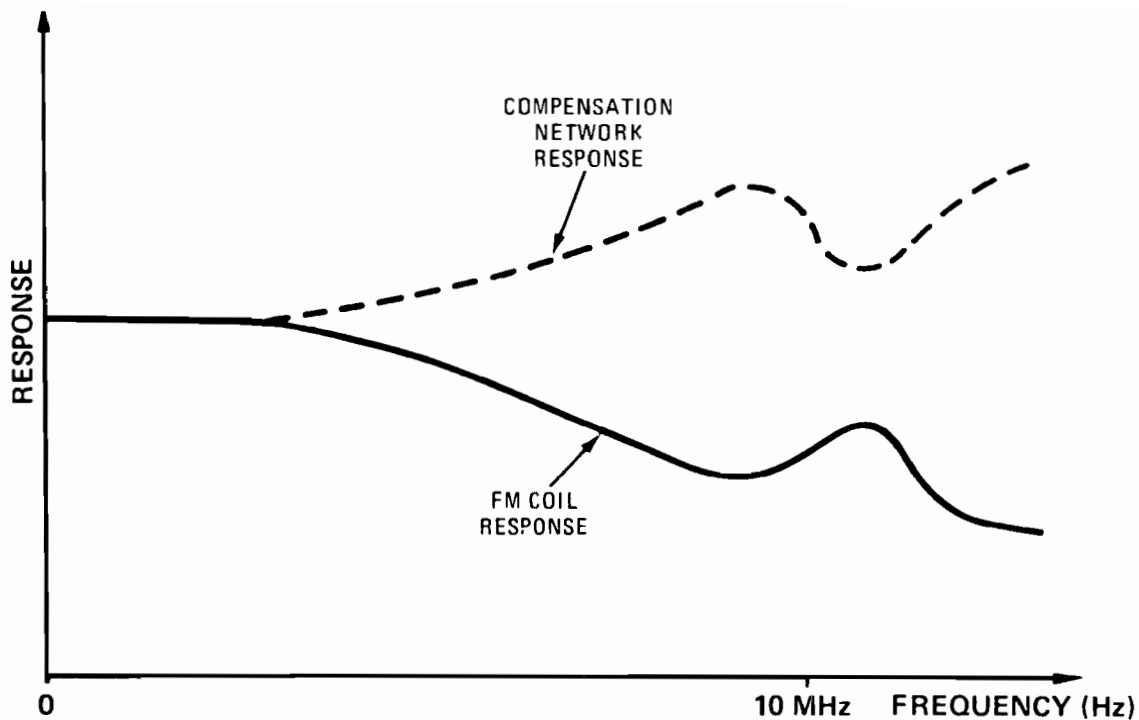

Figure 8-39. Plot of FM Coil Response Versus Frequency
The output of the filter network is limited to about ± 3 V with a network made up of VR1, VR2, R14, R15, CR3, and CR4. Q5A and Q5B are connected as emitter followers and buffer the output of the filter network to video amplifier U10. Analog switch U11 is always set to switch position zero. Frequency response shaping to compensate for the roll-off versus frequency of the FM coil is produced by the network made up of C11, C12, C14, R21, R22, R23, R75, and L1 connected across pins 9 and 4 of U10. This network is actually in the emitter of the input differential amplifier of U10 producing greater gain with decreasing impedance. Figure 8-39 shows the approximate response versus frequency of the YO FM coil and the compensation network. Adjustments R19 (FM OFFSET), R75 (H1), and C14 (LO) adjust the shape of the compensation network response.